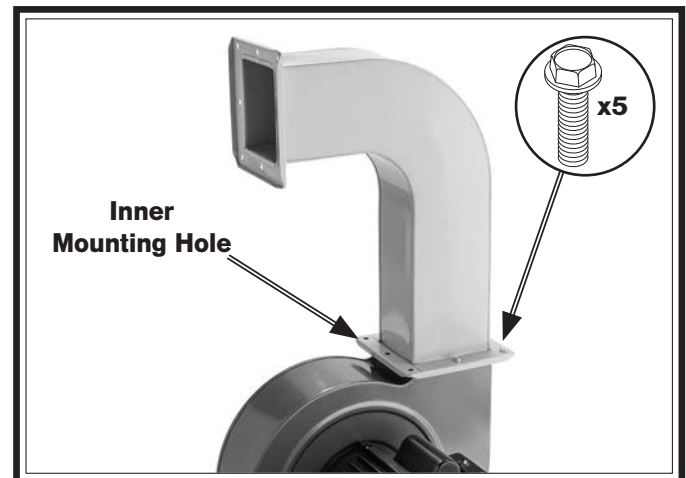

Figure 13. SB1100 outlet tube attached.
4. Attach outlet tube to impeller outlet with (5)  $\frac{5}{16}$ "-18 x  $\frac{1}{2}$ " flange bolts (see **Figures 13 & 14**). Do not use three inner mounting holes.